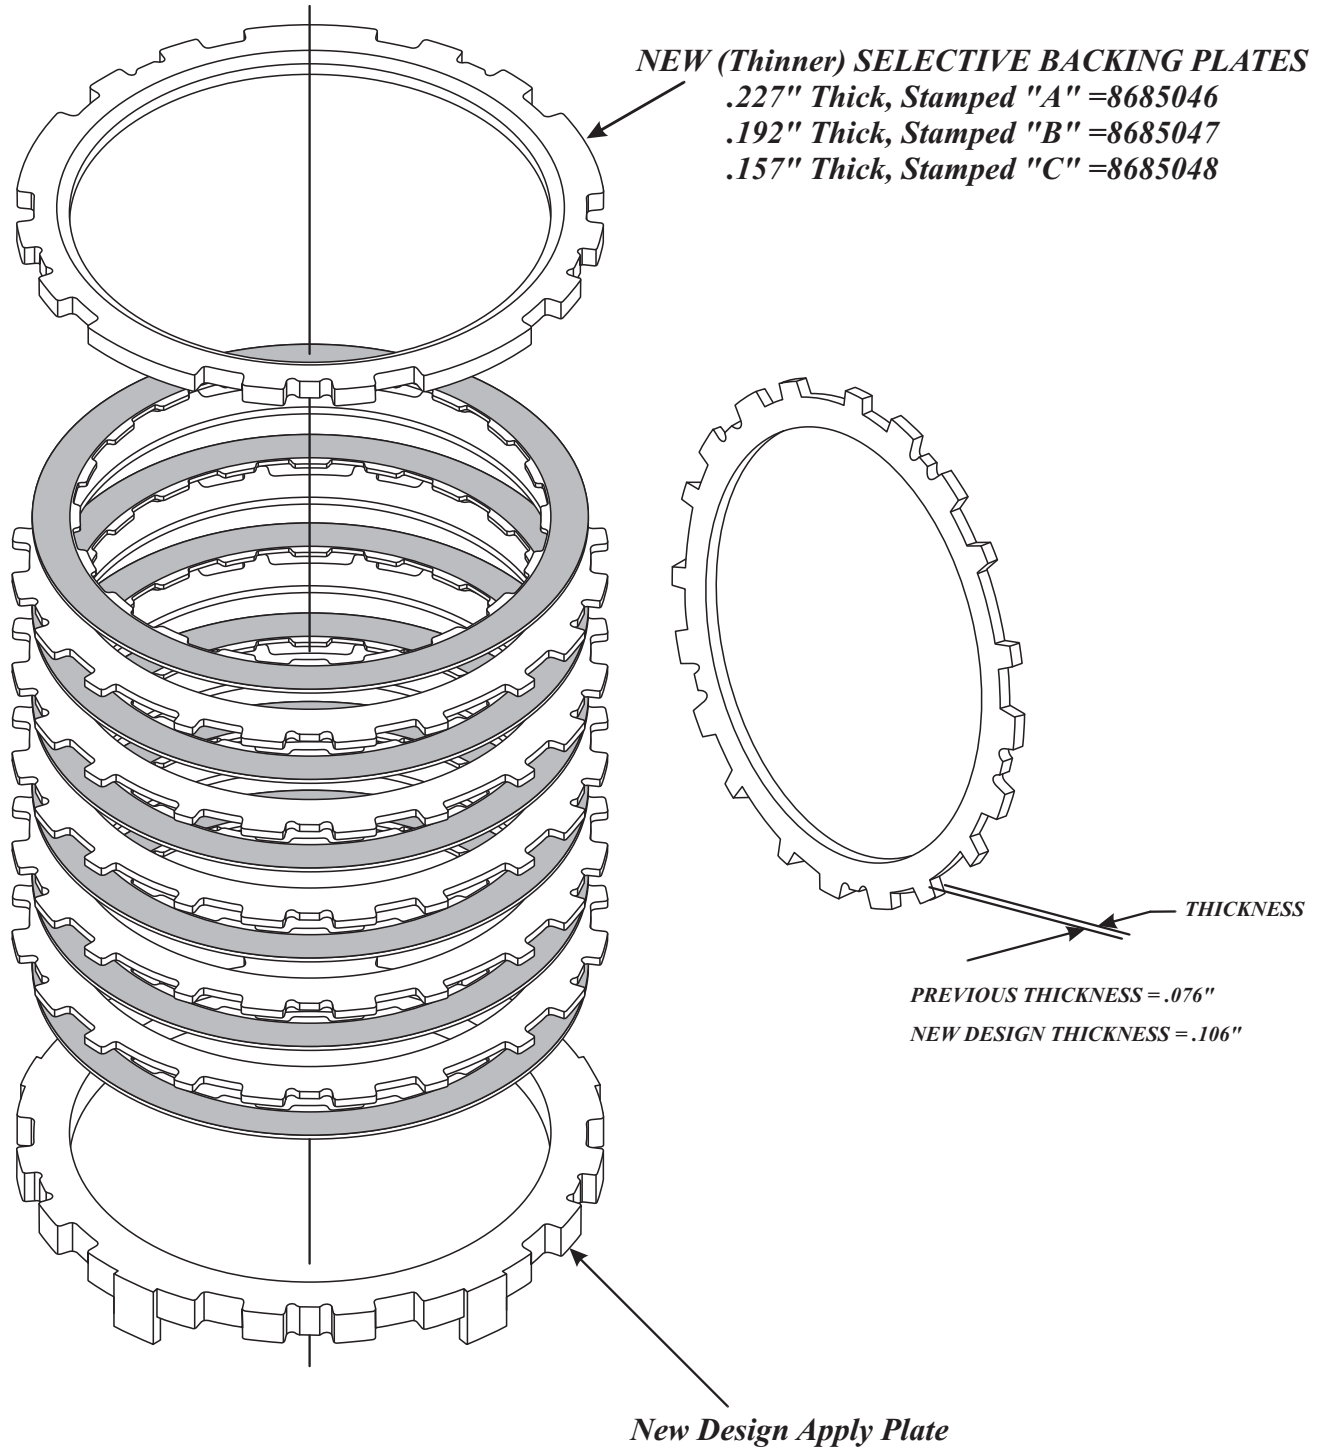

Figure 80
- (6) 3-4 CLUTCH STEEL PLATE - Now manufactured .030" thicker. New steel plates are .106" thick and the previous steel plates are .076" thick, as shown in Figure 80.
- (7) 3-4 CLUTCH BACKING PLATE - Manufactured thinner to accommodate the thicker steel plates. Refer to Figure 80 for the new part numbers, dimensions and identification of the three new selective backing plates.